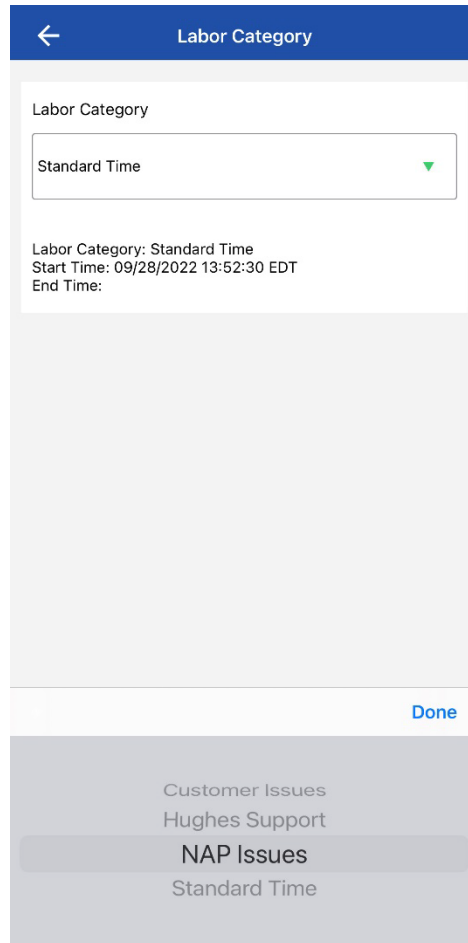

Figure 24: Labor Categories
- More – An expanded menu that allows you to jump to any step within the OASIS workflow (see Figure 24).